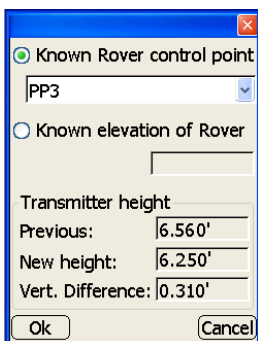

Figure 4-26. Measure Height of Transmitter
7. Press **Ok**. When done the *Transmitter height* fields displays the calculated difference between the height originally specified for the transmitter and the calculated height (Figure 4-26).